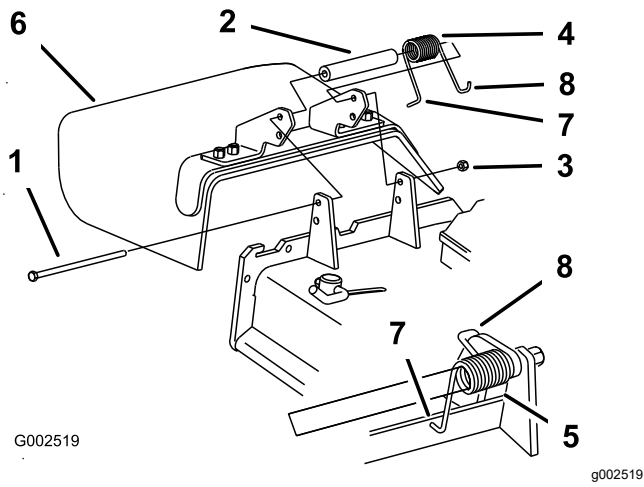

Figure 47
1. Remove the locknut, bolt, spring and spacer holding the deflector to the pivot brackets (Figure 47).
Note: Make sure that the L-end of the spring is installed behind the deck edge before installing the bolt as shown in Figure 47
5. Place the J-hook end of the spring around the grass deflector (Figure 47).